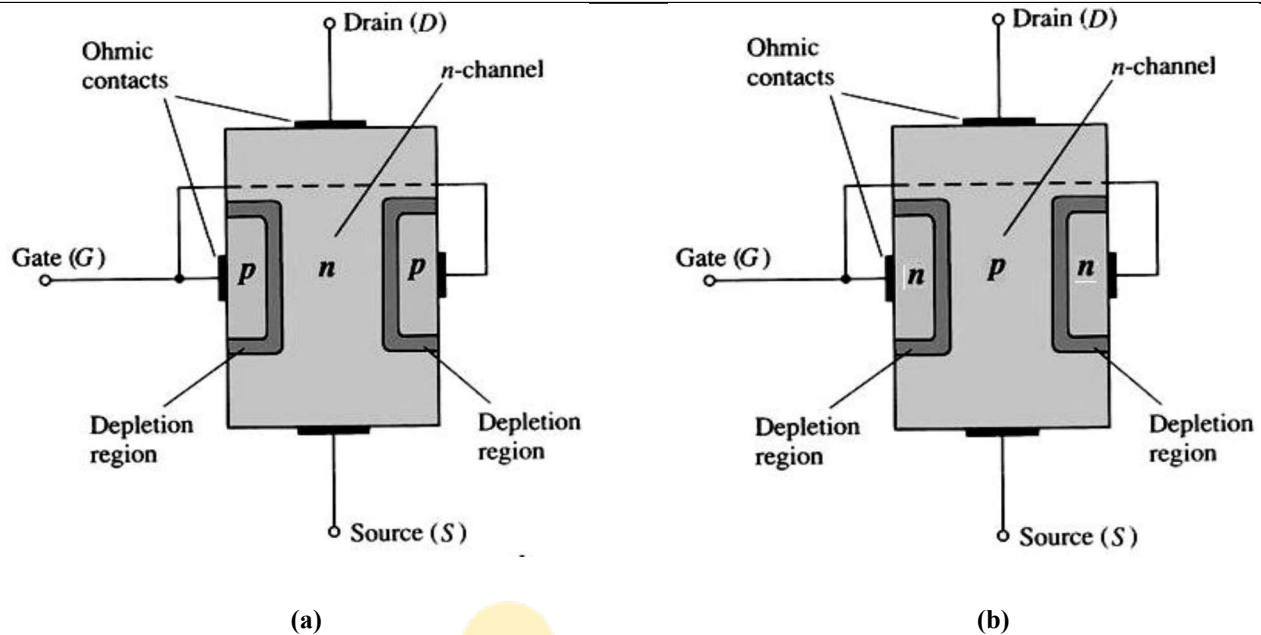

Fig. 2.1 Constructional details of (a) N-channel JFET (b) P-channel JFET
JFET is a voltage controlled three terminal uni-polar semiconductor device. The three terminals namely, Source (S), Gate (G) and Drain (D). As the voltage applied to the Gate with respect to the Source (V_{GS}), controls the current flowing between the Drain and the Source terminals. See fig.2.1.